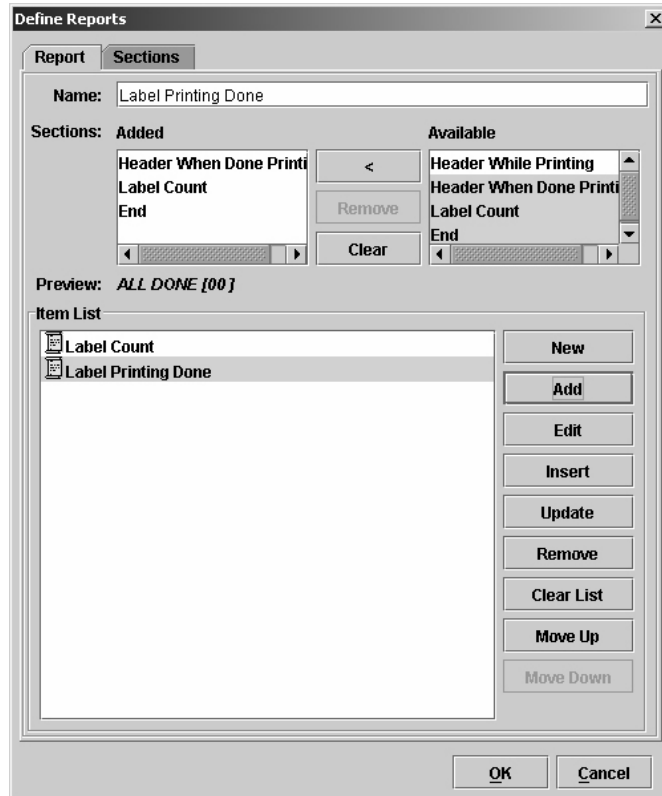

Figure 39. Adding Sections to a Report
13. Click the **Add** button. Label Printing Done is added to the item list. See Figure 39.